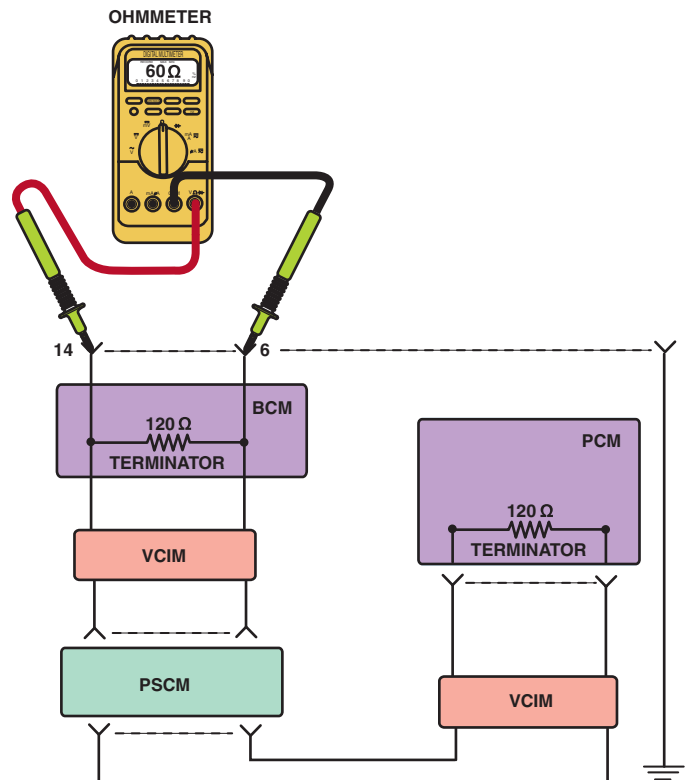

FIGURE 14–27 Checking the terminating resistors using an ohmmeter at the DLC.
STEP 3 Check the resistance of the terminating resistors. Most high-speed BUS systems use resistors at each end, called **terminating resistors**. These resistors are used to help reduce interference into other systems in the vehicle. Usually two 120 ohm resistors are installed at each end and are therefore connected electrically in parallel. Two 120 ohm resistors connected in parallel would measure 60 ohms if being tested using an ohmmeter. ● SEE FIGURE 14–27.
- **A variable voltage usually indicates that messages are being sent and received.** CAN and Class 2 can be identified by looking at the data link connector (DLC) for a terminal in cavity number 2. Class 2 is active all of the time the ignition is on, and therefore voltage variation between 0 and 7 V can be measured using a DMM set to read DC volts. ● SEE FIGURE 14–28.
FIGURE 14–28 Use front-probe terminals to access the data link connector. Always follow the specified back-probe and front-probe procedures as found in service information.